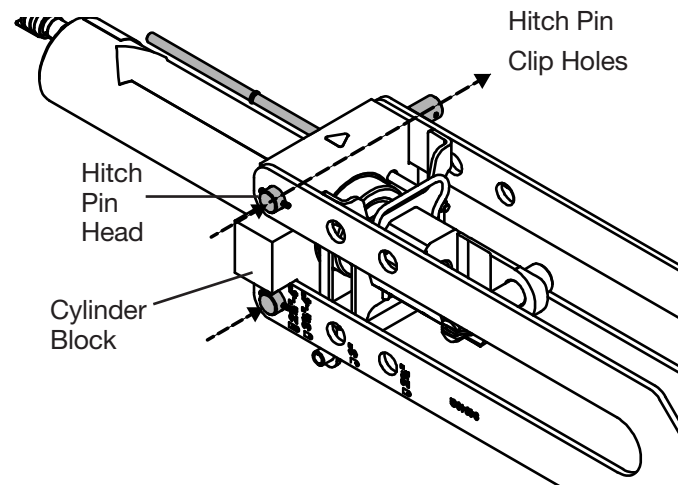

Figure 6
8. Insert the cylinder block hitch from the side where the cylinder block extends out past the connecting forks. (Fig. 6)